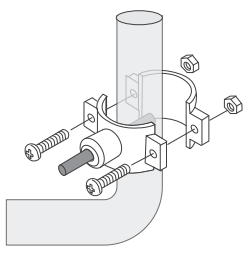

Figure 9
3. Slip the front plate over one end of the tubing (without a mark) and insert the tubing into the drilled hole for about 0.6" (Figure 9) .